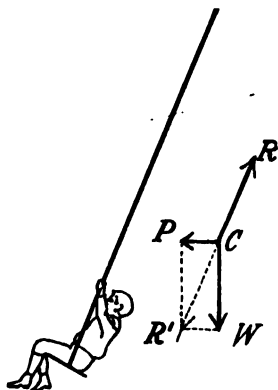

FIG. 116. — Three forces acting on child in swing.
Again, suppose we have a 100-pound child in a swing (Fig. 116). A man pushes the child to one side with a force of 20 pounds. What is the magnitude and direction of the pull exerted by the rope? In the force diagram (Fig. 116),  $CW$  represents the weight of the child (100 pounds),  $CP$  represents the push (20 pounds) of the man against the child, and  $CR$  represents the pull of the rope which we wish to determine. The resultant  $CR'$  of  $CP$  and  $CW$  is equal to  $\sqrt{CP^2 + CW^2}$ , or  $\sqrt{(20)^2 + (100)^2}$ , or about 102 pounds. Therefore the tension in the rope is also 102 pounds. Its direction can be found from the diagram.